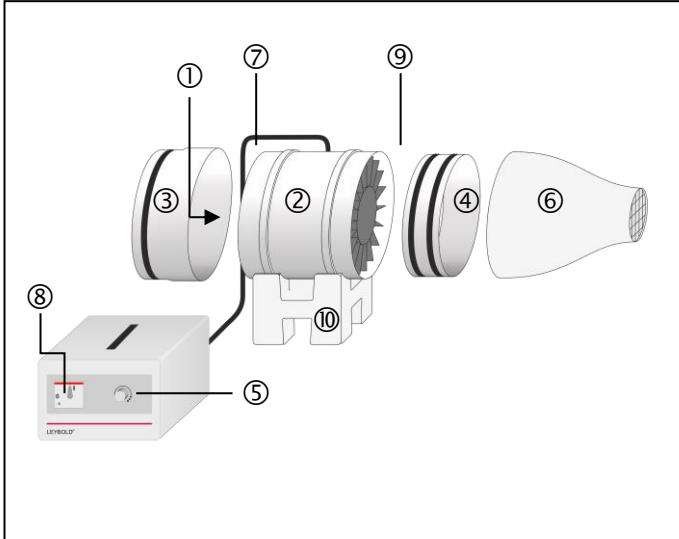

Fig. 1: Suction and pressure fan.
- Turn off the motor protection switch ⑧ (Fig. 1)!